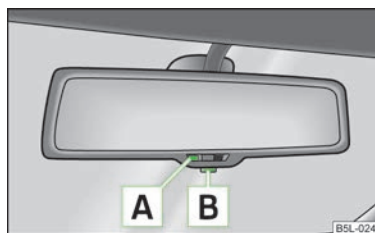

Fig. 39
- > Press the button » Fig. 39, the indicator light lights up.